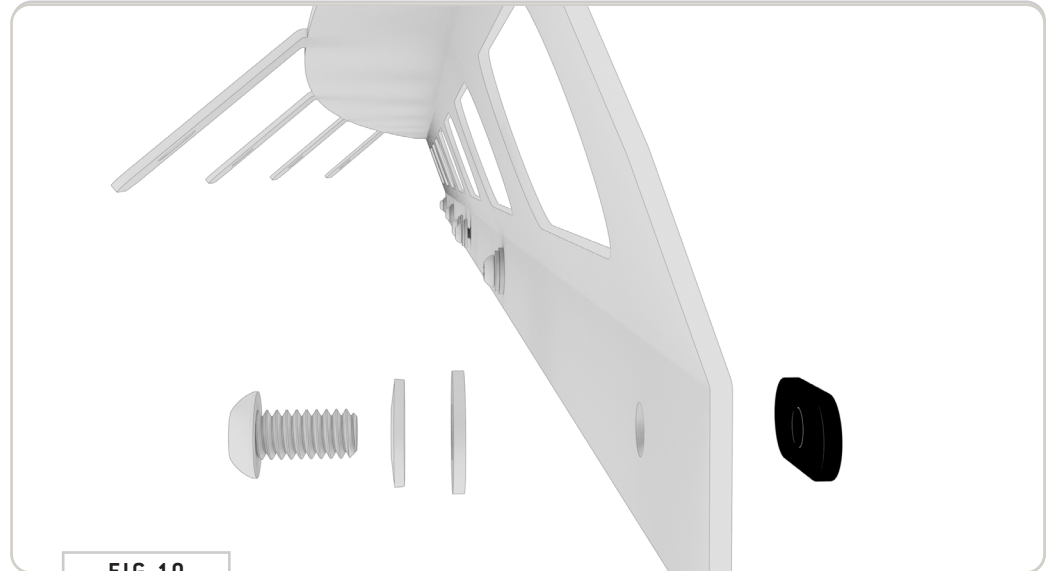

FIG 10
**4.1 Crossbar Fairing Bracket:** Stack a **1/4-20" x 0.5 Button Head Screw**, **1/4" Belleville Lock Washer** and **1/4" Flat Washer** as shown in **FIG 10** and insert into the six available front holes of the **Crossbar Fairing Bracket**. Loosely assemble using a **T-Nut**. You'll only want to screw the **T-Nuts** on a little in order to provide clearance for the next step.